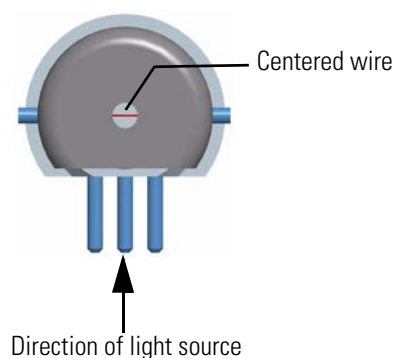

Figure 6-38. Filament wire as seen from the bottom of the filament through the electron lens hole
- a. Turn the filament assembly over and, using a strong light and a magnifying glass, make sure that the filament wire is centered in the electron lens hole. If necessary, carefully use forceps (or a dental pick) to adjust the filament wire. Figure 6-38 shows the centered filament wire as seen from the bottom of the filament through the electron lens hole.